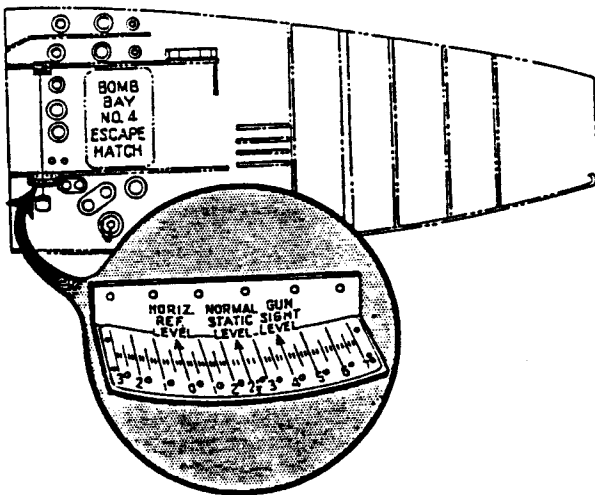

Figure 8. Calibrated Leveling Plate
e. LEVELING.- A calibrated leveling plate, and a bracket for suspension of a plumb line is installed in the number four bomb bay. See figure 8. The airplane may be leveled by inflating or deflating the shock struts, as the case may be; by deflating the tires, or by jacking the airplane. See paragraph 2 b.
(1) Suspend a plumb line from the bracket so that the plumb bob is centered over the leveling plate. The point of the plumb bob should be centered over the "LATERAL LEVELING LINE" and the "LONGITUDINAL LEVELING LINE."